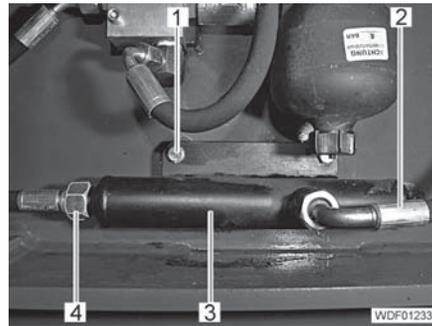

Fig. 213 Pulsation damper attachment
- Unscrew and close off the 2 hydraulic lines (Fig. 213,2 and 4).
- Unscrew the 2 screws (Fig. 213,1).
- Remove the pulsation damper (Fig. 213,3).
- Screw in 2 screws (Fig. 213,1) with washers and tighten.
- Screw the 2 hydraulic lines (Fig. 213,2 and 4) onto the connections on the pulsation damper and tighten.